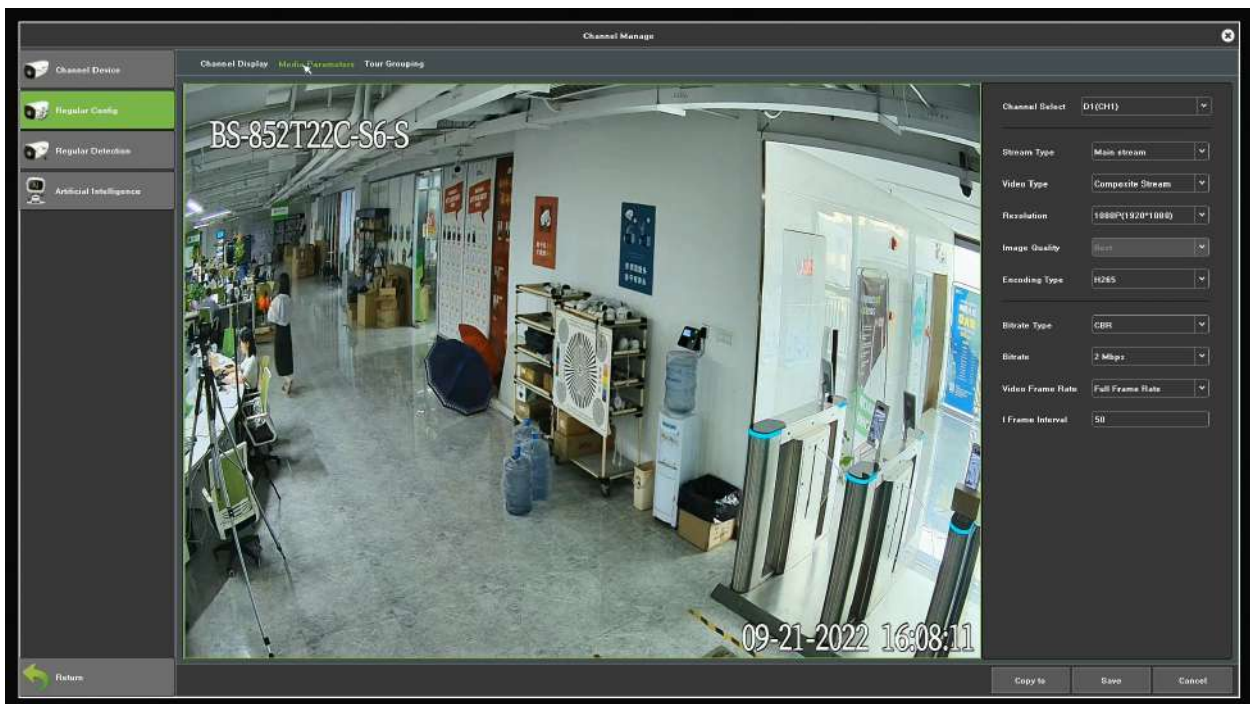

Figure 7.6 Recording Parameter
1. Enter the media parameters interface, as shown in Figure 7.6